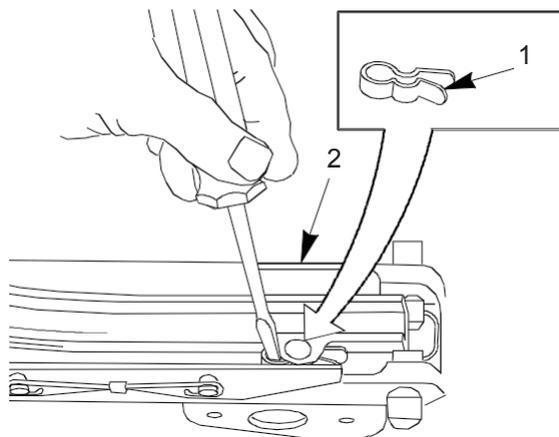

Figure 6. Retaining Clip, Cover and Feed Mechanism Assembly.
8. Insert screwdriver into loop of retaining clip (Figure 6, Item 1) and pull toward front of cover and feed mechanism assembly (Figure 6, Item 2) and remove.
9. Visually inspect retaining clip (Figure 6, Item 1) for bends, or cracks and replace if damaged.